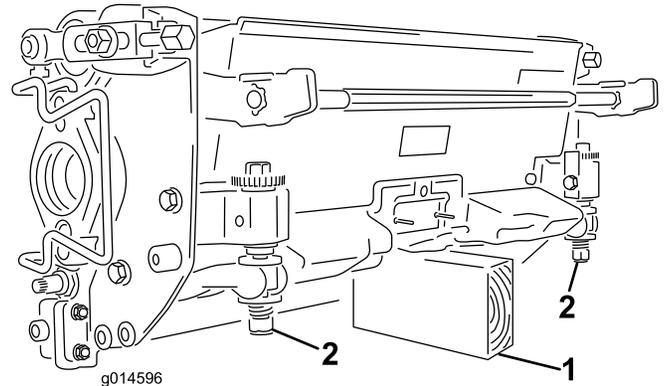

Figure 28
**Important:** Whenever you need to tip the cutting unit, prop up rear of cutting unit to ensure that the nuts on the bedbar adjusting screws are not resting on work surface (Figure 28).